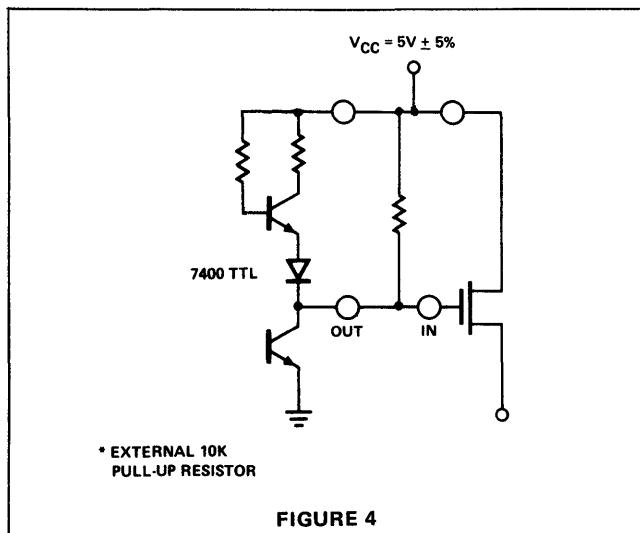

FIGURE 4
TO ASSURE A SATISFACTORY 1 OUTPUT LEVEL FROM SERIES 7400 IN DRIVING SERIES 2500 MOS, AN EXTERNAL PULL-UP RESISTOR SHOULD BE CONNECTED FROM THE OUTPUT TO V_{CC} AS SHOWN IN FIGURE 4.
*For devices not listed, add an external pull-up resistor as in the 7400 example (Fig. 4).